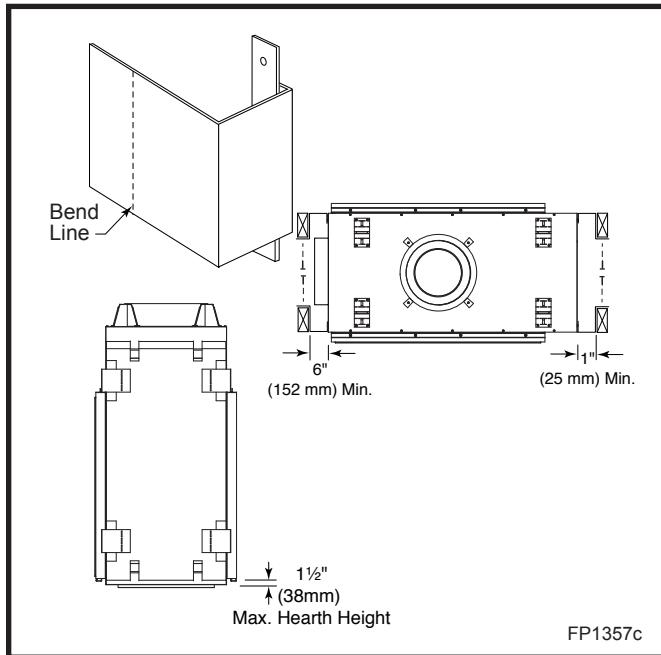

Fig. 4 Nailing flanges.
A hearth is not mandatory but is recommended for aesthetic purposes. We recommend a noncombustible hearth which projects out 12" (305 mm) or more from the front of the fireplace. The hearth cannot exceed 1½" (38 mm) in height from bottom of fireplace for ease of door accessibility. (Fig. 4)
2. The unit is shipped with four (4) nailing flanges mounted near the front corners on the side with the valve box assembly . (Fig. 4)
4. Attach the fireplace nailing flanges to the frame as shown in Figure 4.